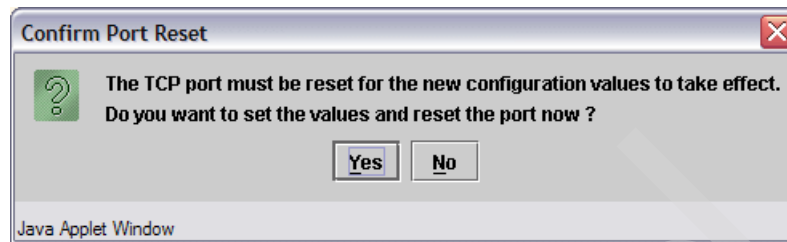

Figure 17-64 Port change warning
4. Click **OK** and the warning in Figure 17-64 appears. Click **Yes** to proceed.